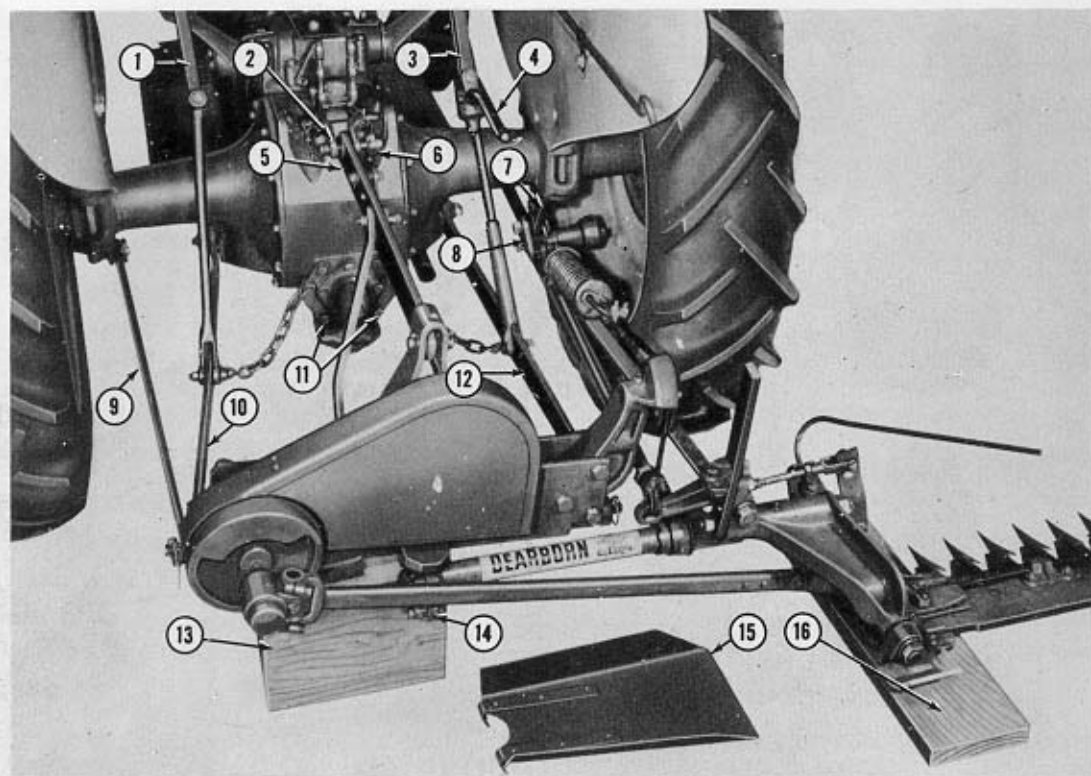

Figure 19
1. Remove the mower drive shaft shield (15), Figure 19, from the tractor and tighten the two bolts (11) in the tractor center housing.
2. Start the tractor engine, raise the mower and lock the anchor straps to the upper link with the lock (6), Figure 19. Disengage the tractor P.T.O. lever and shut off the engine.
4. Place a block (13), Figure 19, that is 8" wide, 11" high and 12" long under the LEFT side of the mower main frame as shown. Be sure the block is far enough forward so it will not be under the drag bar socket cup (14), Figure 19. Place a board (16) under the cutter bar inner and outer shoe.
5. Release the upper link transport lock (6), Figure 19, and SLOWLY lower the mower main frame on the block (13) with the hydraulic touch control lever.
6. Relieve the tension on the balance spring by turning the leveling crank (4), Figure 19.
7. Remove the stabilizer bar (9), Figure 19, and detach the tractor left lower link (10) from the mower main frame. Detach the right lower link (12) from the mower main frame and replace the linch pins in their holders.
8. Detach the mower pull bar (8), Figure 19, from the right hand anchor bracket (7) and replace the linch pin.
9. Detach the mower upper link (5) from the upper link bracket (2) and replace the pin and linch pin in the bracket.
11. Remove the lift link extension arms (1) and (3), Figure 19, from the tractor and replace the knuckles provided between the lift arms and the leveling rods.